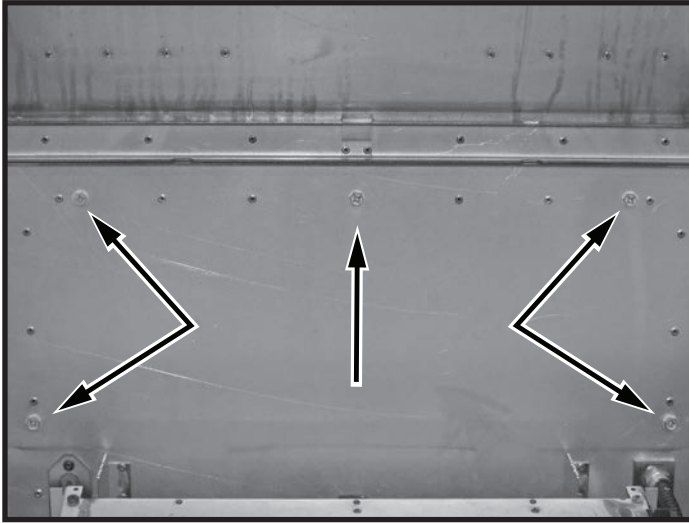

Figure 107: Control panel access bolts.
5. Remove 5 screws holding the control panel unit to the firebox back (Figure 107).